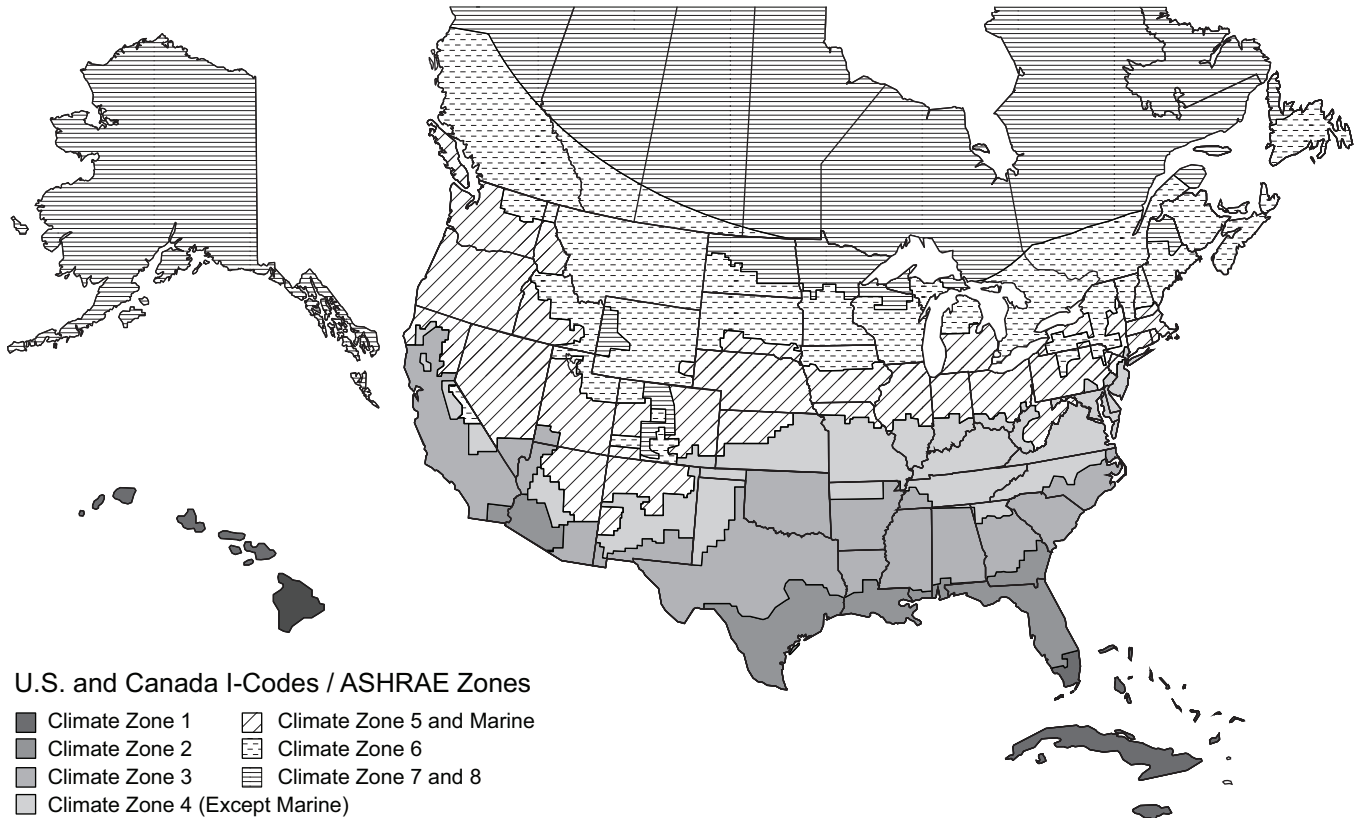

Fig. 13 — U.S. and Canada Climate Zones
a. See Fig. 13 for map of U.S. and Canada climate zones.